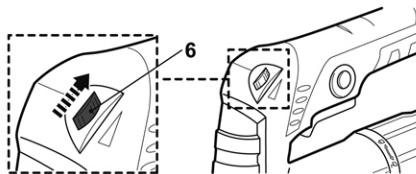

Fig. 10
2. Turn the speed dial **(6)** right (as seen from below perspective) to decrease the working speed (Fig.10). A lower setting is suitable for sanding with coarse-grained sanding papers to clean plaster and water stains from work surfaces.